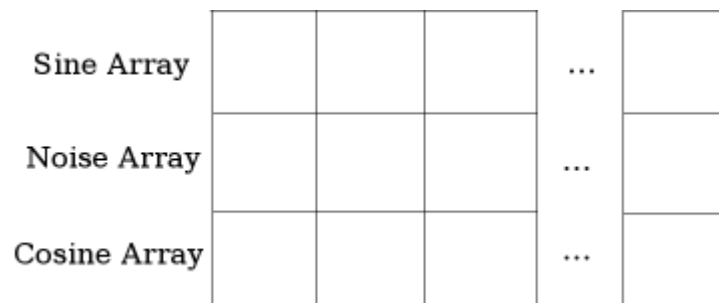

Figure 9.11
-  The Build Array function located on the Functions»All Functions»Array palette builds the 2D array from the sine array, noise array, and cosine array, as shown in Figure 9.11.